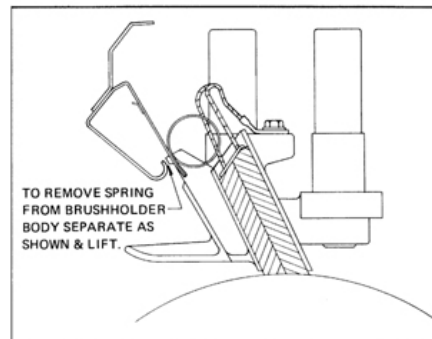

FIG. 5-4. SPRING REMOVAL & BRUSH POSITION IN HOLDER. E-18814
- c. To remove the spring, omit step b. Hold the brush spring straight up, separate the spring as shown in Fig. 5-4, and lift from the brush holder.
- d. Insert the new brush. Be sure the chamfer on the brush is correct. (See Fig. 5-4.).